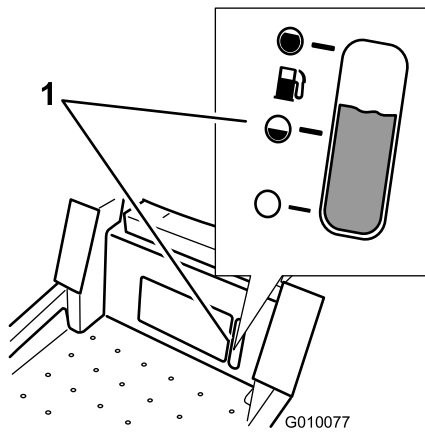

Figure 11
Use the fuel window below the operator to verify the level of gasoline before filling the tank (Figure 11).
**Note:** You can use the fuel window below the operating position verify the presence of gasoline before filling the tank (Figure 11).